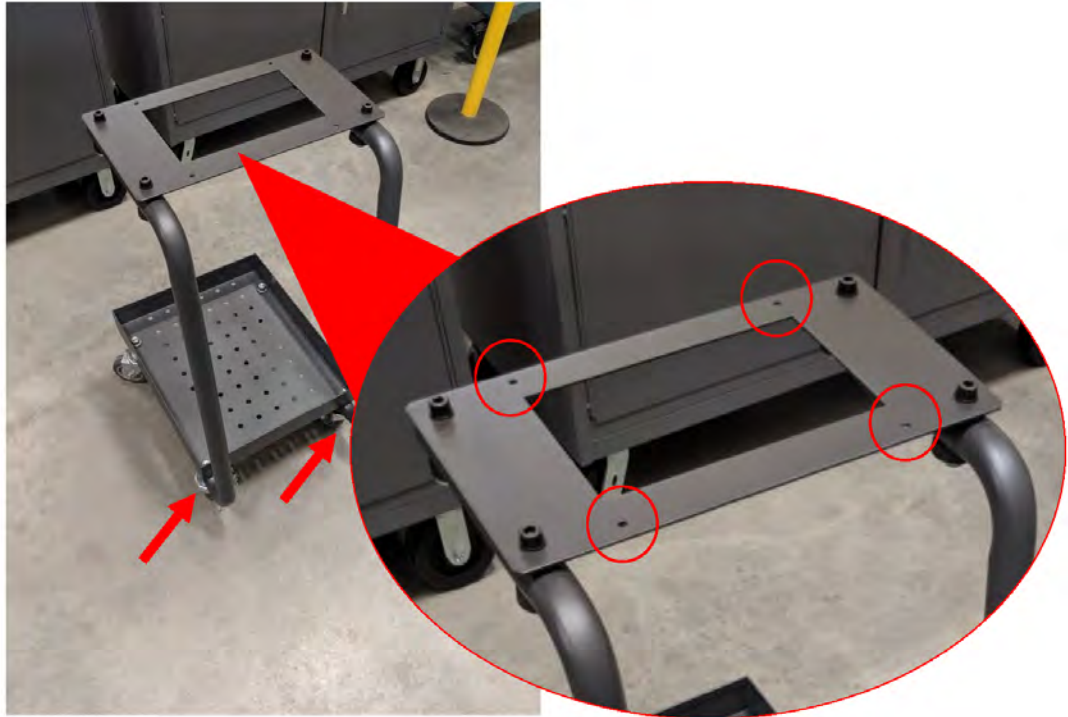

Figure 16-50 Mobile Stand Brakes and Mounting Holes
2. Place the mobile stand in an open flat area of the floor and set the brakes, located on the front wheels (refer to Figure 16-50).
3. Locate the 4x mounting holes on the top plate of the mobile stand (refer to Figure 16-50).